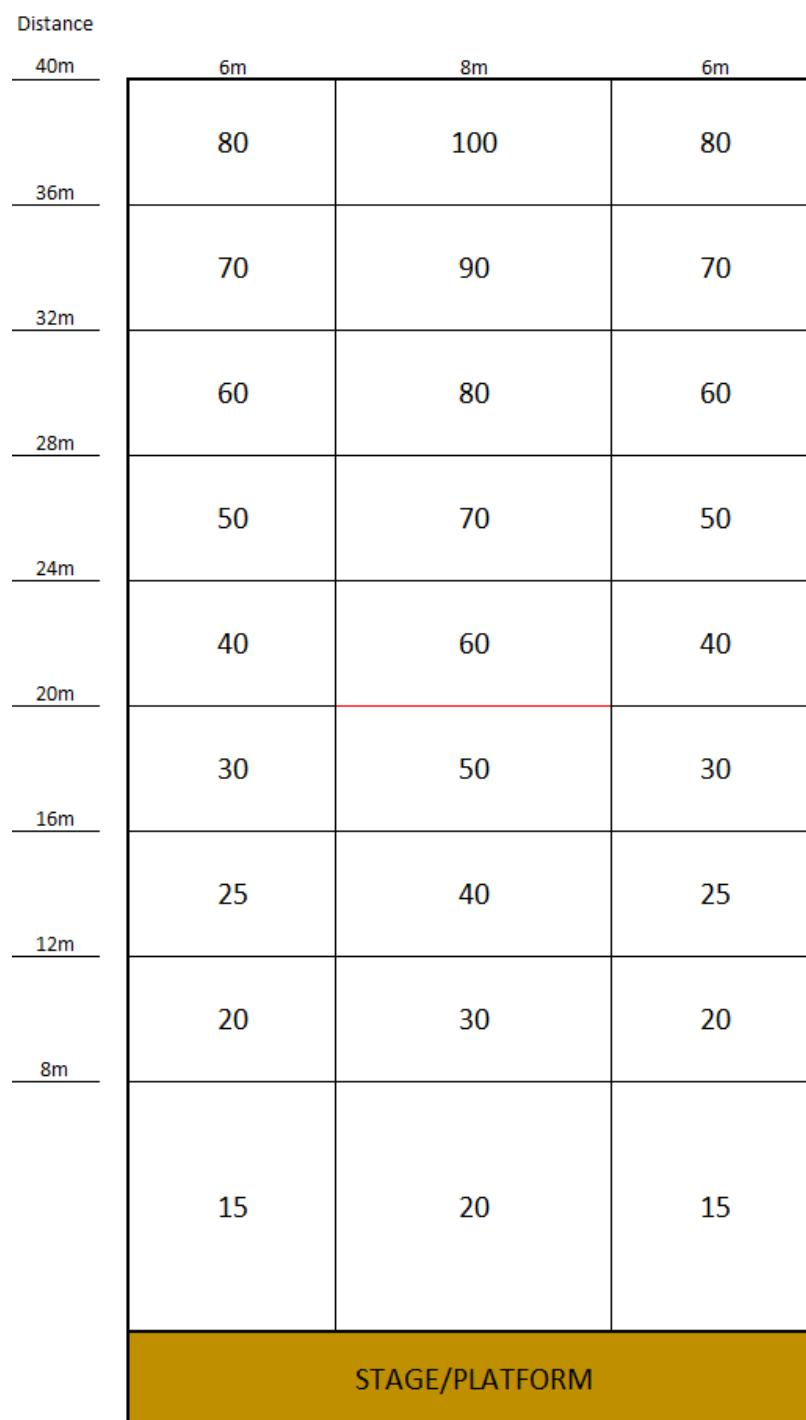

Figure 6: Floor Layout with scoring zones and respective allocated scores with dimensions
The competition floor will be segregated into different scoring zones with respective allocated scores for each zone with dimensions as shown in Figure 6.
10. TWO (2) pole-like objects (e.g. PVC poles) will be placed just before the 50-marks zone (demarcated by the **RED** line in Figure 6).